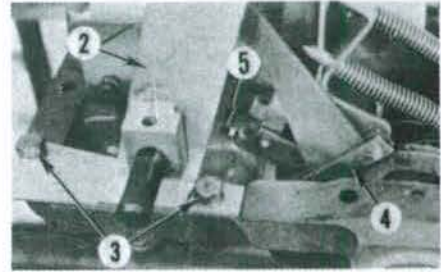

Fig. 220—Refer to text for internal adjustment of lift cover linkage.
If equipped with pressure control, move pressure control lever (4—Fig. 220) upward. On all models, turn position control adjustment screw (5) outward several turns. Move position control lever against transport stop and place draft control lever between sector marks as shown in Fig. 221. Attach a suitable spring scale to vertical lever (1—Fig. 222) and apply a 1.36 Kg (3 pound) pull